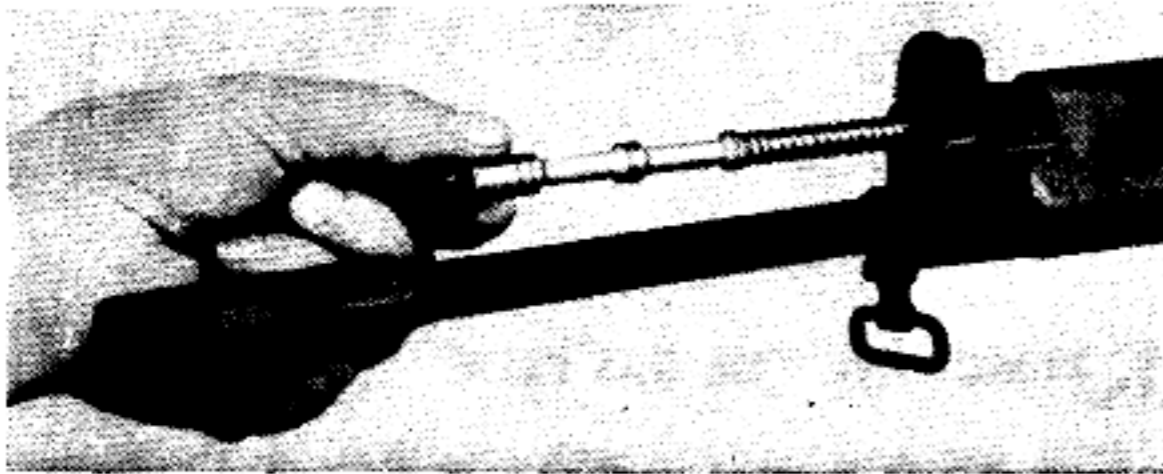

Fig. 24
Remove the piston and its spring from the gas cylinder (fig. 24).
- Replace the piston and its spring in the gas cylinder (fig. 24).